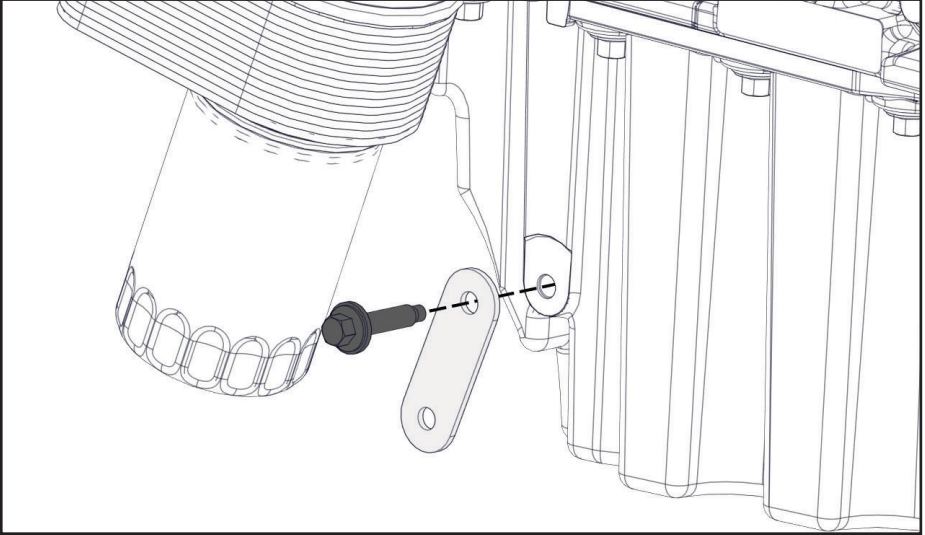

Figure 62 — Install driver side cable tray bracket
- Using the OEM fastener, secure the flat cable tray bracket to the oil pan (Figure 62).